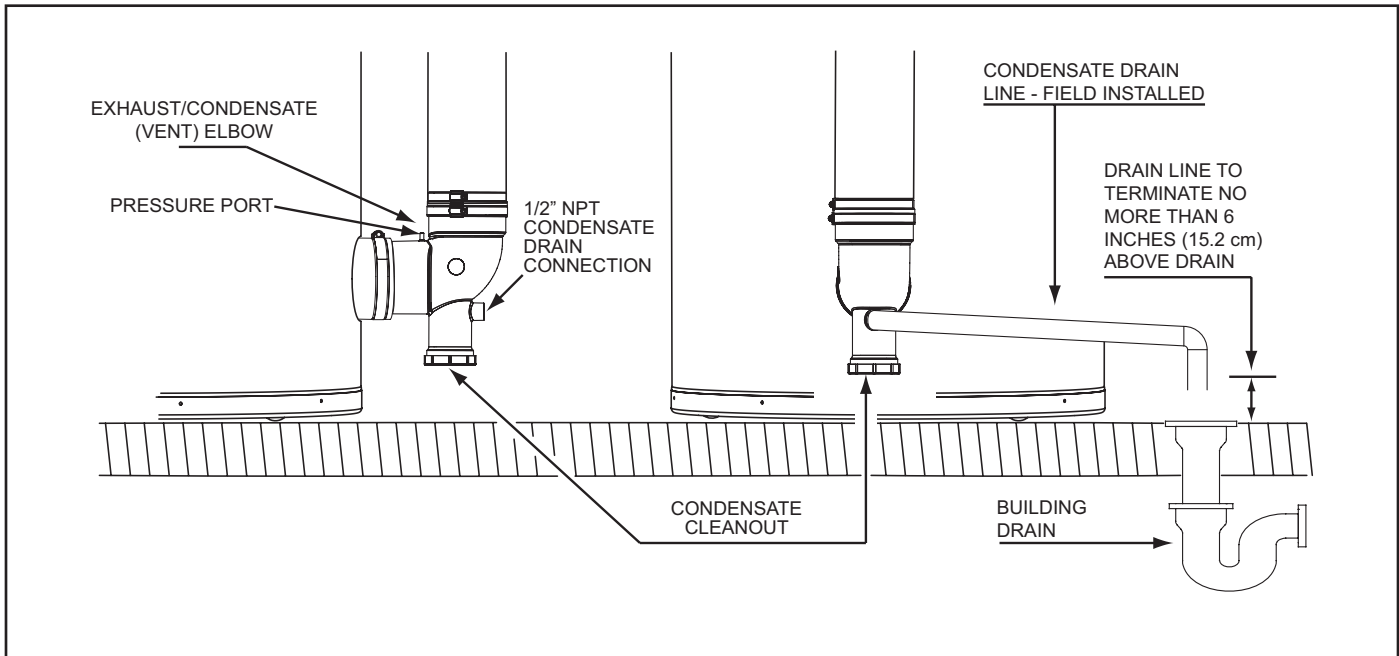

Figure 50
2. Install a 1/2 inch PVC condensate drain line between the condensate drain connection on the Exhaust/Condensate Elbow and a suitable building drain, see Figure 50.
3. Terminate the condensate drain piping with an elbow above the drain. Ensure that any discharge will exit the condensate drain line no more than 6 inches (15.2 cm) above a suitable building drain, or external to the building, see Figure 50.
4. Ensure the condensate drain line is not elevated above the condensate drain connection on the exhaust/condensate elbow, see Figure 50.